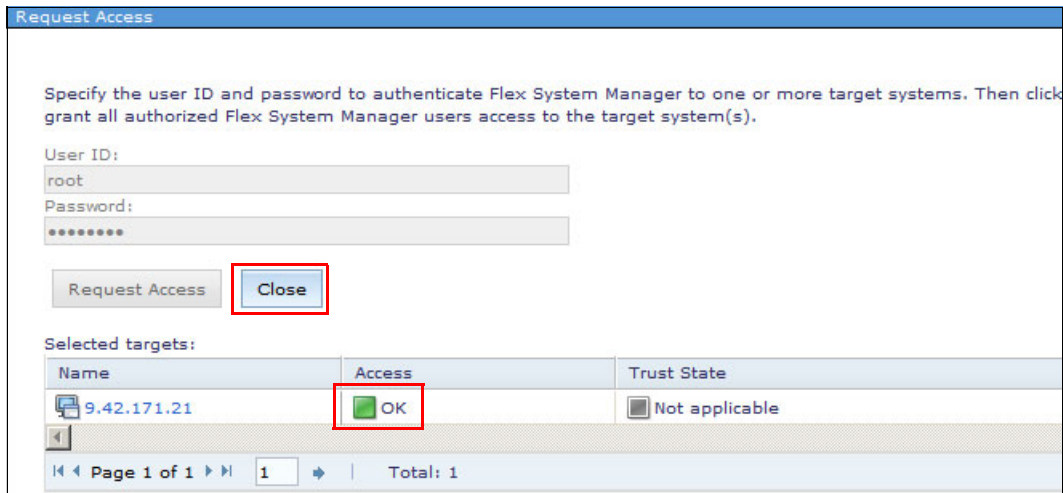

Figure 6-71 Access is granted
3. After you request access to the object, ensure that access is granted (OK is displayed in the Access column), as shown in Figure 6-71. Click **Close**.